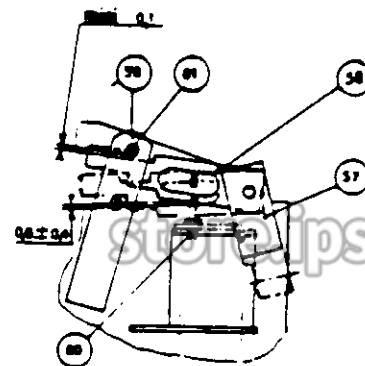

Fig. 23
Holding the striking pin (29) as illustrated in Fig. 23, apply rated voltage to the holding coil, placing release bar in unlatched position. Remove voltage and allow release bar to slowly withdraw observing
NOTE: In order to prevent blocking of the release bar from being reset when breaker opens, it is necessary to return release bar to its latched position by means of the hook illustrated in Fig. 23.
- C. Undervoltage lockout (Fig. 23). When the undervoltage release is provided with lockout to prevent breaker reclosing upon voltage restoration, the following adjustments should be made: Applying voltage to the relay allows lever (58) to come into contact with adjusting stop (60). Adjust stop (60) for a clearance of 0.6 ± 0.4 mm (0.024 ± 0.016 inch).